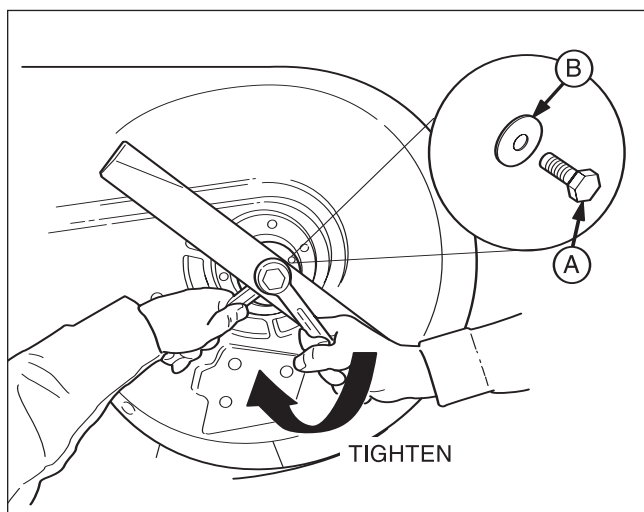

Figure 24. Installing The Blade
5. Reinstall each blade with the tabs pointing up toward deck as shown in Figure 24. Secure with a bolt and flat washer and torque bolts to 70 ft.lbs. (94 N.m.).